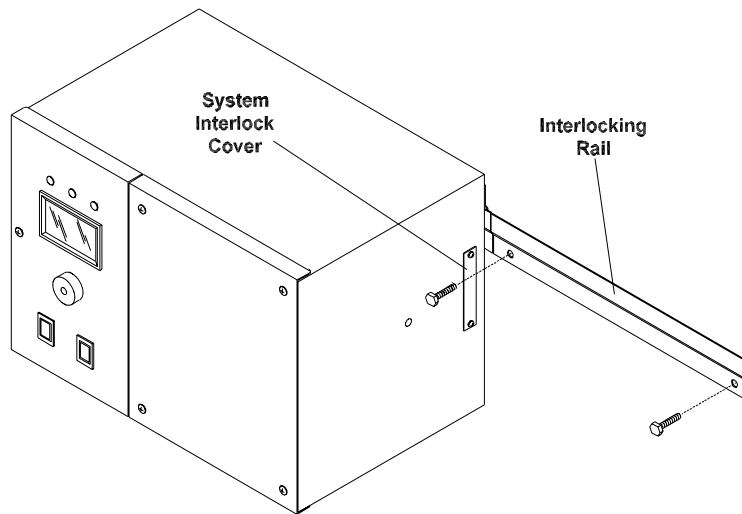

Figure 3.6 Removing the System Interlink cover and mounting the Interlocking Rail
Step 2: Remove the system inter-link cover, located on the right-hand side of the chassis. Refer to *figure 3.6*.